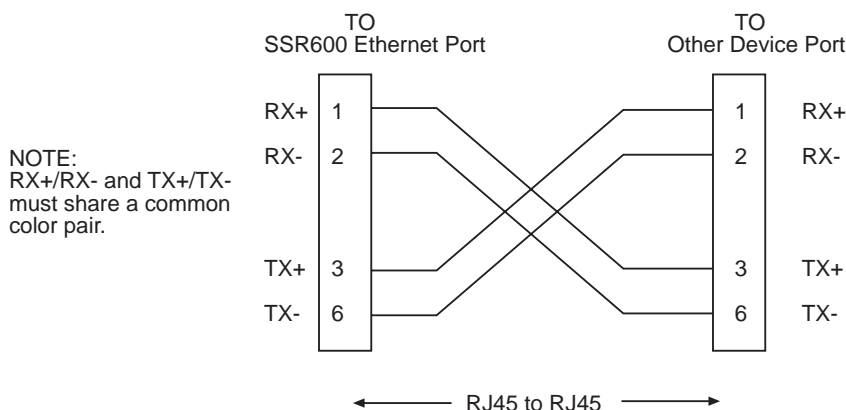
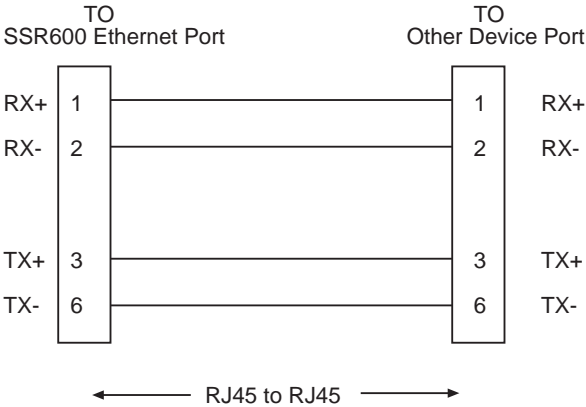

Figure 3-11 Crossover Cable RJ45 Pinouts
Figure 3-12 Straight-Through Cable RJ45 Pinouts
- c. Verify that the RJ45 connectors on the twisted pair segment have the proper pinouts (Figure 3-11 and Figure 3-12) and check the cable for continuity. Typically, a crossover cable is used between a switching or hub device and an end user (computer). A straight-through cable is used between hub devices.